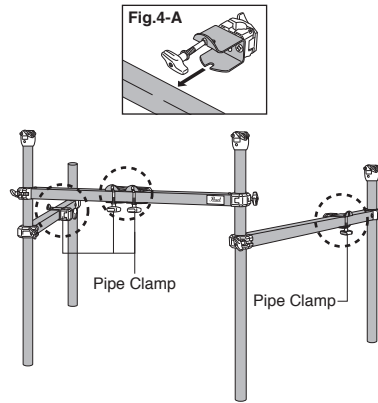

Fig.4
5. Attach two Pipe Clamps to the Front Bar and one each on both Side Bars (Fig. 4 and 4-A).